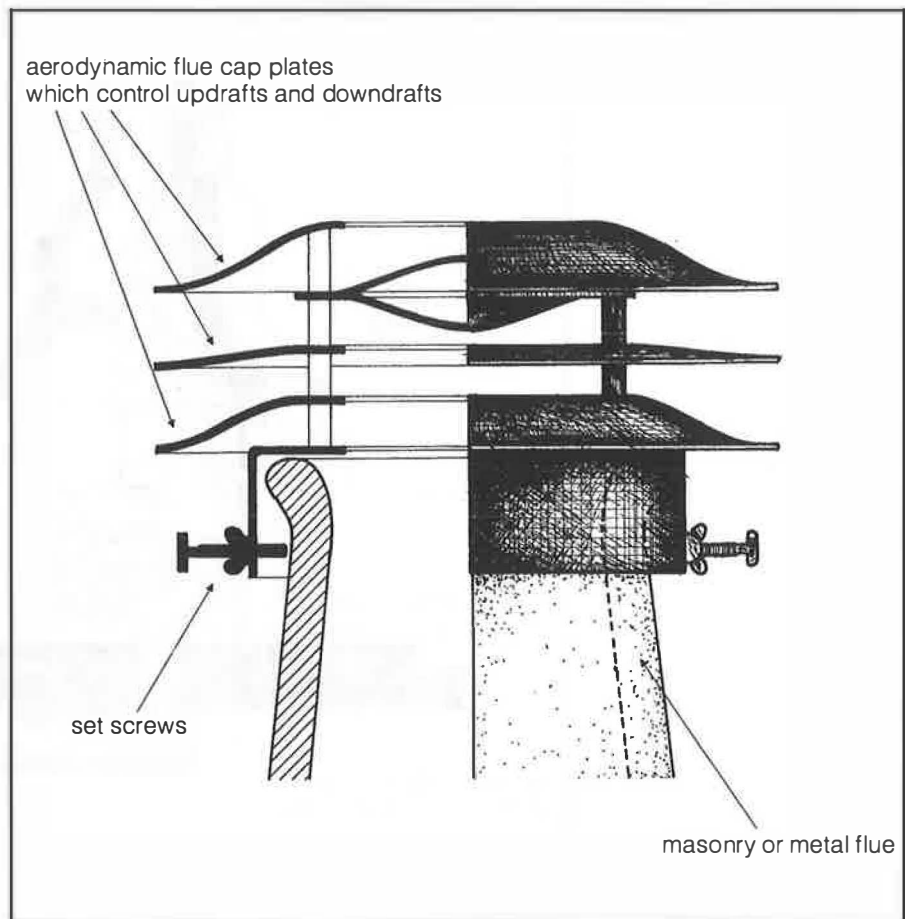

Fig. 7. Draft-inducing flue cap
- Install a draft-inducing chimney cap (*figs. 7 and 8*).
- Use a draft-inducing flue cap (see *figs. 7 and 8*).